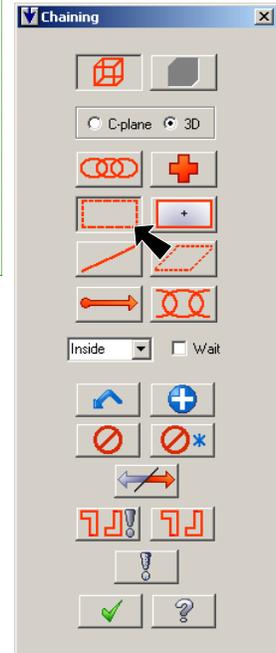

Fig. 5
Step 4. Click the **Window**  in Chaining dialog box, **Fig. 5**.